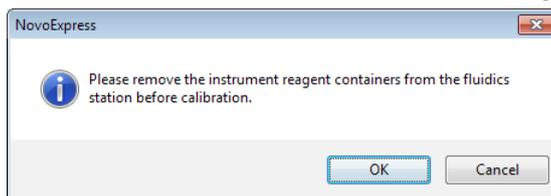

Figure 4-22 Message in NovoExpress™ Software when Performing Fluidics Station Calibration
- 2 Follow the instruction in the software, remove the NovoFlow™, NovoRinse™, NovoClean™, and waste containers from the fluidics station and click *OK* button (Figure 4-22).